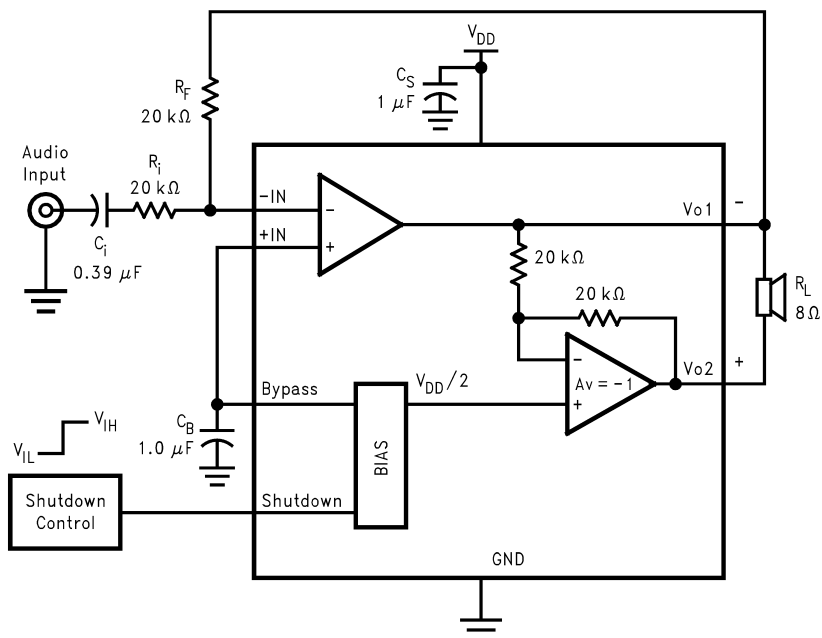

Figure 1. Typical Audio Amplifier Application Circuit
- (6) PSRR is a function of system gain. Specifications apply to the circuit in Figure 1 where $A_V = 2$. Higher system gains will reduce PSRR value by the amount of gain increase. A system gain of 10 represents a gain increase of 14dB. PSRR will be reduced by 14dB and applies to all operating voltages.
- (1) All voltages are measured with respect to the ground pin, unless otherwise specified.
(3) For micro SMD only, shutdown current is measured in a Normal Room Environment. Exposure to direct sunlight will increase I_{SD} by a maximum of $2\mu A$.
(4) Typicals are measured at $25^\circ C$ and represent the parametric normal.
(5) Limits are specified to AOQL (Average Outgoing Quality Level).
(6) PSRR is a function of system gain. Specifications apply to the circuit in Figure 1 where $A_V = 2$. Higher system gains will reduce PSRR value by the amount of gain increase. A system gain of 10 represents a gain increase of 14dB. PSRR will be reduced by 14dB and applies to all operating voltages.